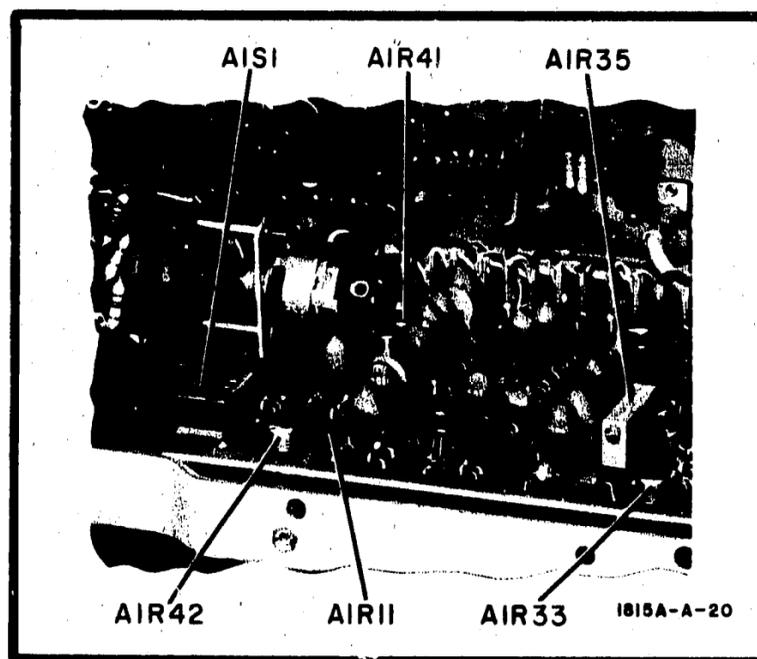

Figure 5-20. Vertical Adjustments
- f. Adjust ZERO ADJ potentiometer A1R42 until no baseline shift occurs between the open and shorted output. See Figure 5-20 for location.